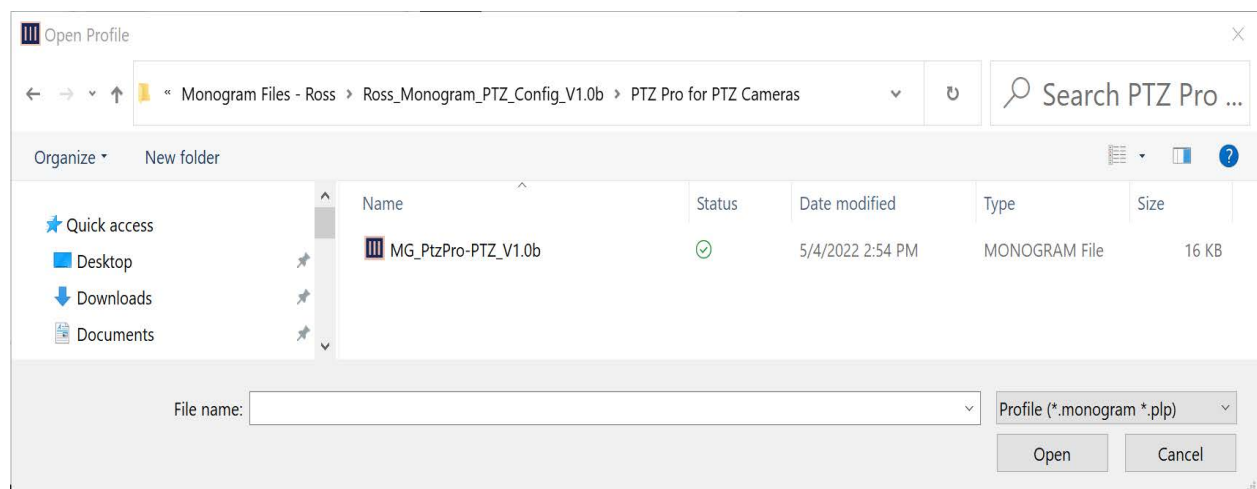

Figure 24 - Folder Containing a Configuration Profile (.monogram file)
2. Navigate to the folder you extracted (**C:\Ross\Monogram Files\Ross_Monogram_PTZ_Config_<version>**), and then open the folder that corresponds to your Monogram Creative Console package and the type of robotic camera systems you want to control (Figure 24):
5. Open the folder that corresponds to your Monogram Creative Console package and the type of robotic camera systems you want to control (Figure 24):